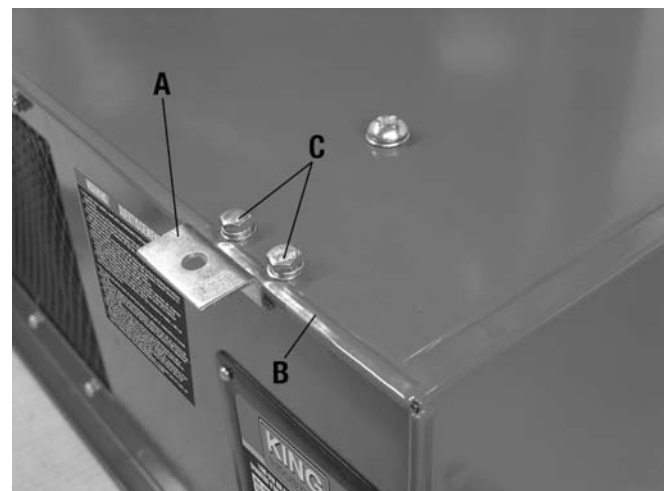

FIGURE 6
- 1) Four brackets (A) Fig.6 can also be used for mounting to a ceiling or wall.
- 2) Place one end of bracket underneath the lip of the air cleaner cabinet (B).
- 3) Secure the bracket (A) to the cabinet with two hex. bolts, spring washers and washers (C) as shown in Fig.6. Repeat steps for the remaining three brackets.